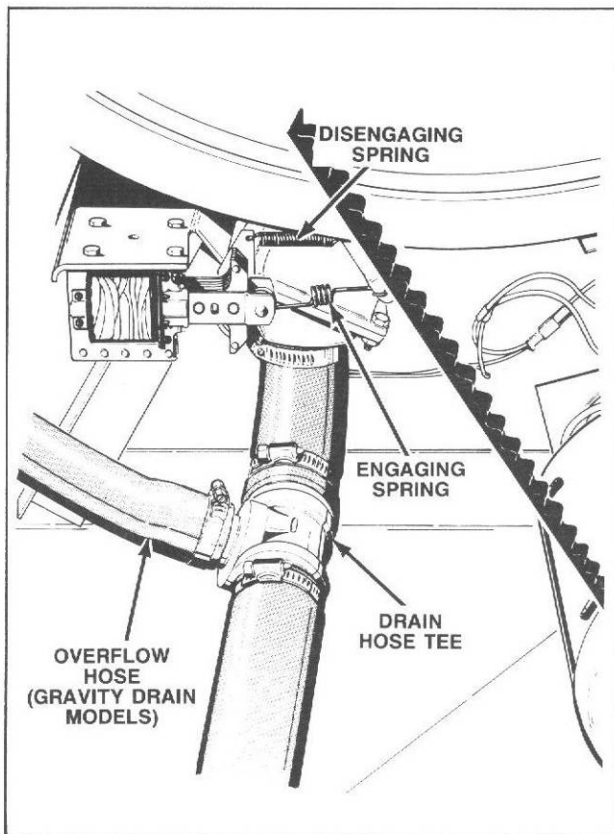

Figure 25
- e. Gravity Drain Models: Disconnect overflow hose from drain hose tee, *Figure 25*.